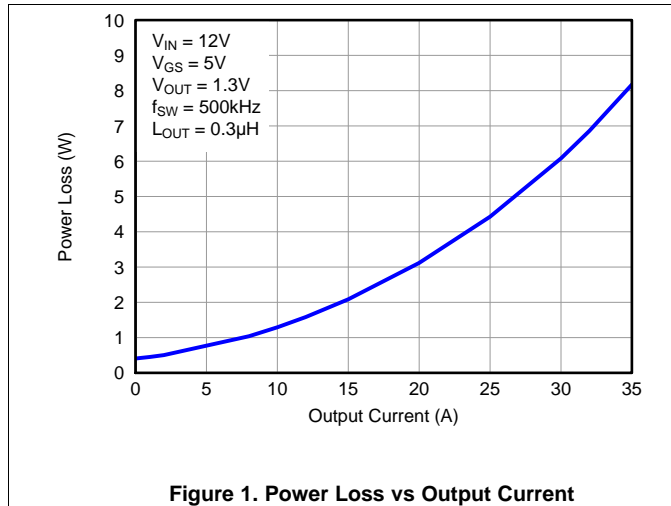

Figure 1. Power Loss vs Output Current
MOSFET centric parameters such as  $R_{DS(ON)}$  and  $Q_{gd}$  are needed to estimate the loss generated by the devices. In an effort to simplify the design process for engineers, Texas Instruments has provided measured power loss performance curves. Figure 1 plots the power loss of the CSD87351Q5D as a function of load current. This curve is measured by configuring and running the CSD87351Q5D as it would be in the final application (see Figure 32). The measured power loss is the CSD87351Q5D loss and consists of both input conversion loss and gate drive loss. Equation 1 is used to generate the power loss curve.
The power loss curve in Figure 1 is measured at the maximum recommended junction temperatures of 125°C under isothermal test conditions.
- Power loss at 25 A = 3.5 W (Figure 1)